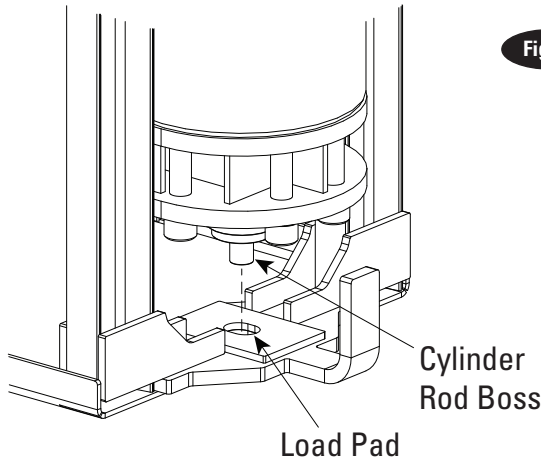

Fig. 34
- B. Look into the containment tube to check that the high pressure cylinder rod is in the load pad hole, Fig. 34.